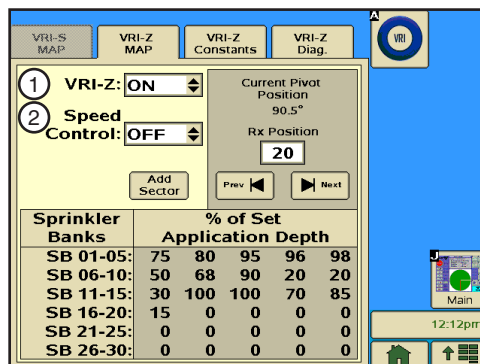

Figure 52-1 VRI-Zone Map Screen
1. Push **Options, VRI, VRI-Z Map** to display the VRI-Z Map screen. Refer to Figure 52-1.